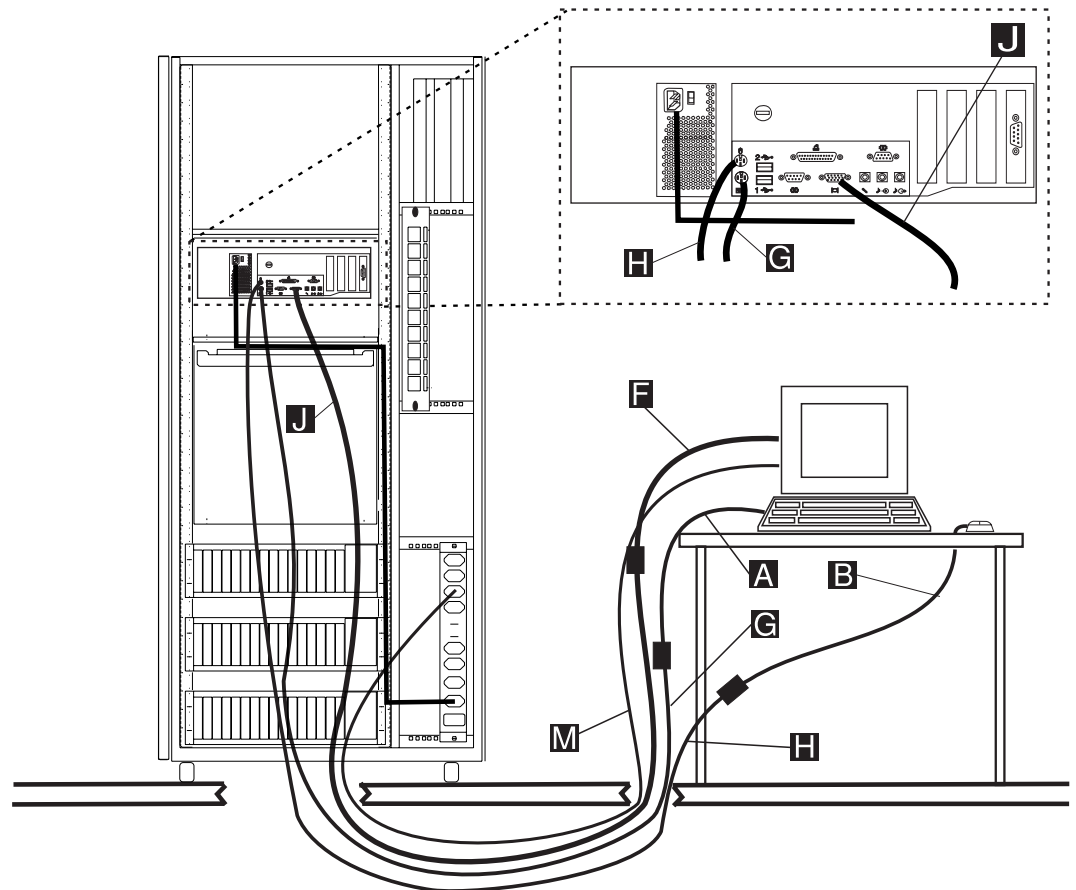

Figure 1-11. Installing the Display and Keyboard on a Table
Note: If you are installing the keyboard and the mouse outside of the controller expansion, use the keyboard extender cable PN 10K8632 **G** and the mouse extender cable PN 10K8633 **H** (see Figure 1-11 on page 1-15).
Note: If you are installing the display outside of the controller expansion, use the extender cable PN 59G1270 (see Figure 1-11 on page 1-15, reference **J**).
19. Connect the display power cable **M** to the ac outlet distribution box (see Figure 1-11 on page 1-15). Secure all the cables using tie clamps along the frame.